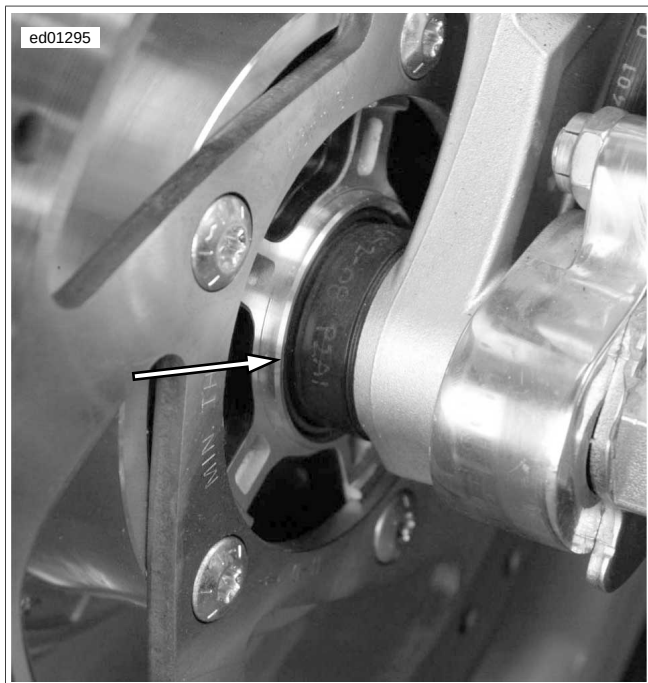

Figure 6-3. Rear Wheel Speed Sensor
- See Figure 6-3. Rear Wheel Speed Sensor.